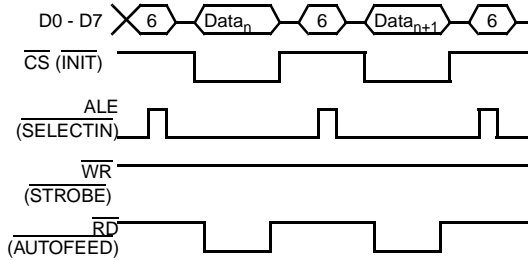

Figure 59: Reading Gain and Offset Coefficients through the DataPort (uP mode)
from the LM9830 in a continuous stream. First, write to register 3 to set what the data is (gamma or offset/gain) and what color (red, green, or blue) the data is for. Then write to registers 4 and 5 to set the initial address (usually 0), and the R/W mode (R in this case). To read data from the DataPort, the DataPort address (6) needs to be inserted before every read to prefetch the data from the external SRAM. The timing is shown in Figure 59. Note that this applies *only* to offset and gain coefficient reads; the gamma table may be read with or without the additional address writes. The DataPort Address stored in registers 4 and 5 will be automatically incremented after every read (if reading gamma data) or every second read (if reading offset/gain coefficient words).